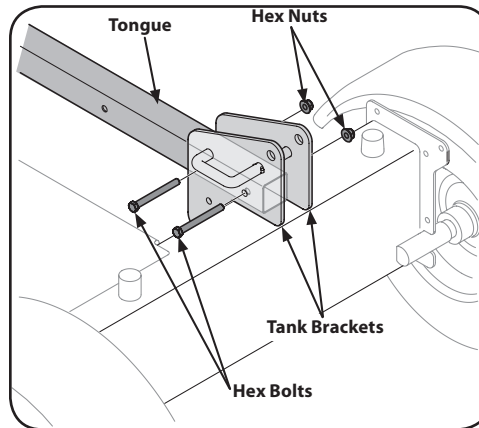

Figure 3-2
9. With the log splitter still secured to the bottom of the crate, remove two hex bolts and hex nuts from the tank bracket and remove the piece of wood inside the tank brackets. See Figure 3-2.
10. Align the holes in the tongue with the holes in the tank bracket and secure with the hardware removed in Step 9. See Figure 3-2.